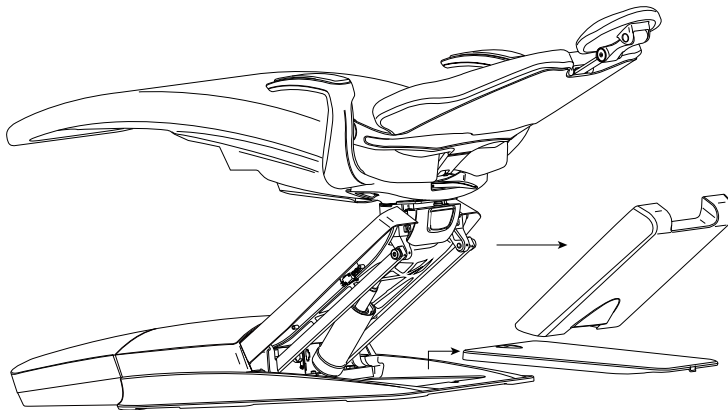

Figure 2. Removing rear covers
- 1 Remove rear covers (see Figure 2).